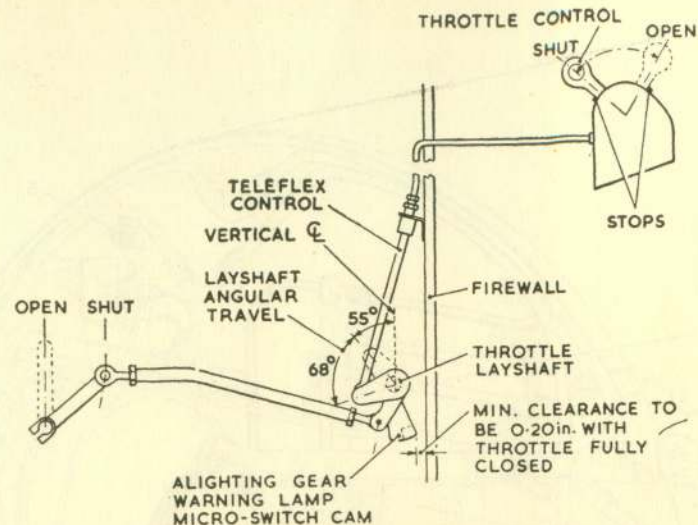

Fig. 9. Throttle control setting (post-mod. N.629)
(2) ◀ Post-Mod. N.629 (fig. 9):—